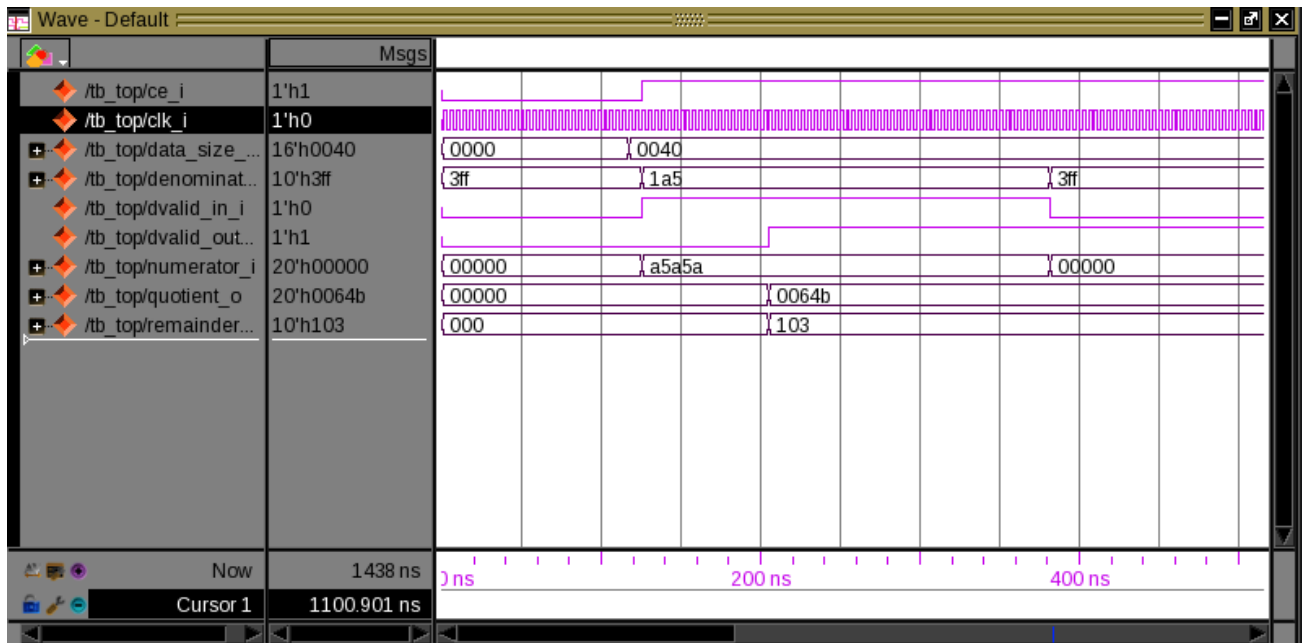

Figure 3.6. Simulation Waveform
**Note:** It is necessary to follow the procedure above until it is fully automated in the Lattice Radiant software suite. The results of the simulation in our example are provided in Figure 3.6.